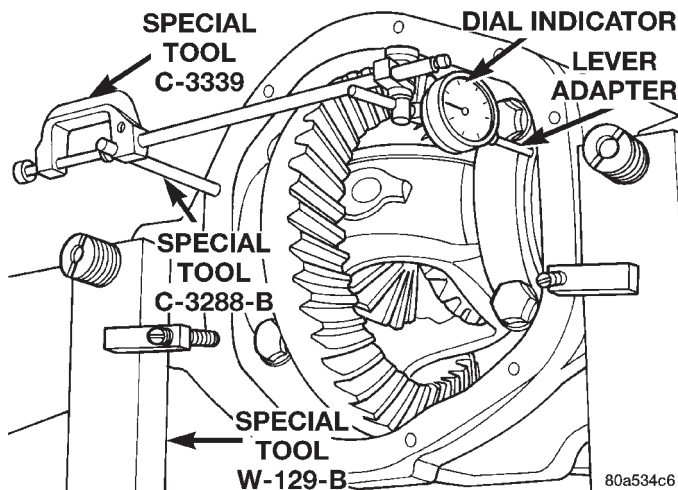

Fig. 18 Install Dial Indicator
- (8) Install a Guide Pin C-3288-B at the left side of the differential housing. Attach Dial Indicator C-3339 to guide pin. Load the lever adapter against the opposite side of the housing (Fig. 18) and zero the indicator.
(2) Install a Guide Pin C-3288-B at the left side of the differential housing. Attach Dial Indicator C-3339 to guide pin. Load the lever adapter against the opposite side of the housing (Fig. 18) and zero the indicator.